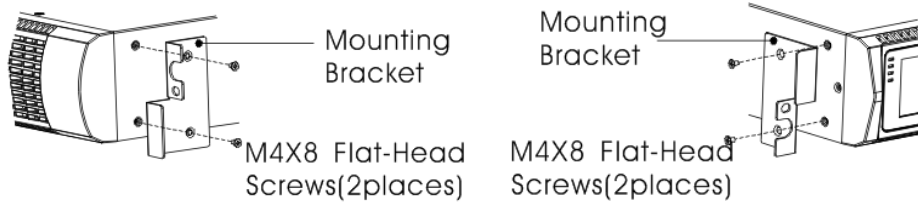

FIG.5 Installing the Mounting Brackets
9. Align the mounting brackets with the screw holes on each side of the UPS and fix with the supplied M4×8 flat-head screws (see FIG. 5)
12. Secure the front of the UPS to the rack using one M5×12 pan-head screws and one M5 cage nuts on each side (see FIG. 5). Install the bottom screw on each side through the bottom hole of mounting bracket and the bottom hole of the rail. Repeat for any optional cabinets.